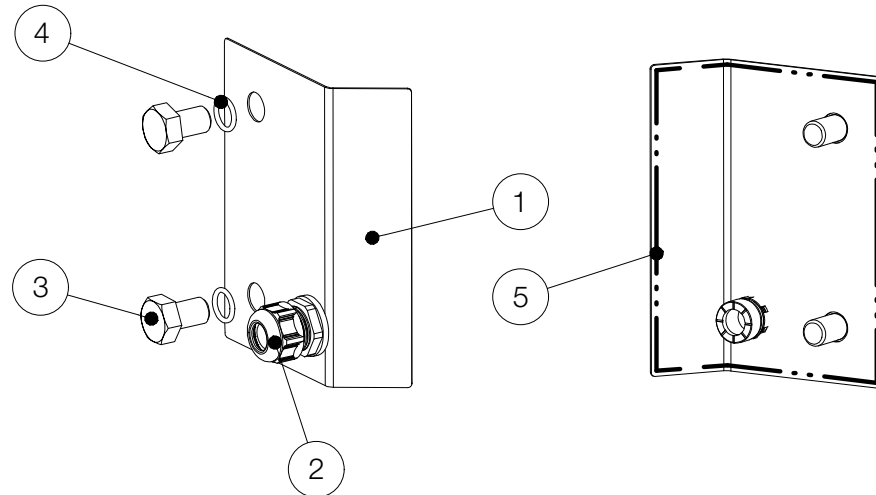

Figure 2.1 - Overview
Make sure to place the two supplied O-rings (item 4 in figure 2.1) between the screw heads and the cover plate.